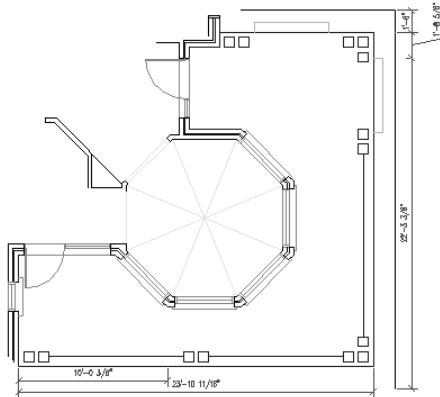

Figure 14-16: The floor plan with baseline and continued dimensions
9. Save your drawing. It should look like Figure 14-16.